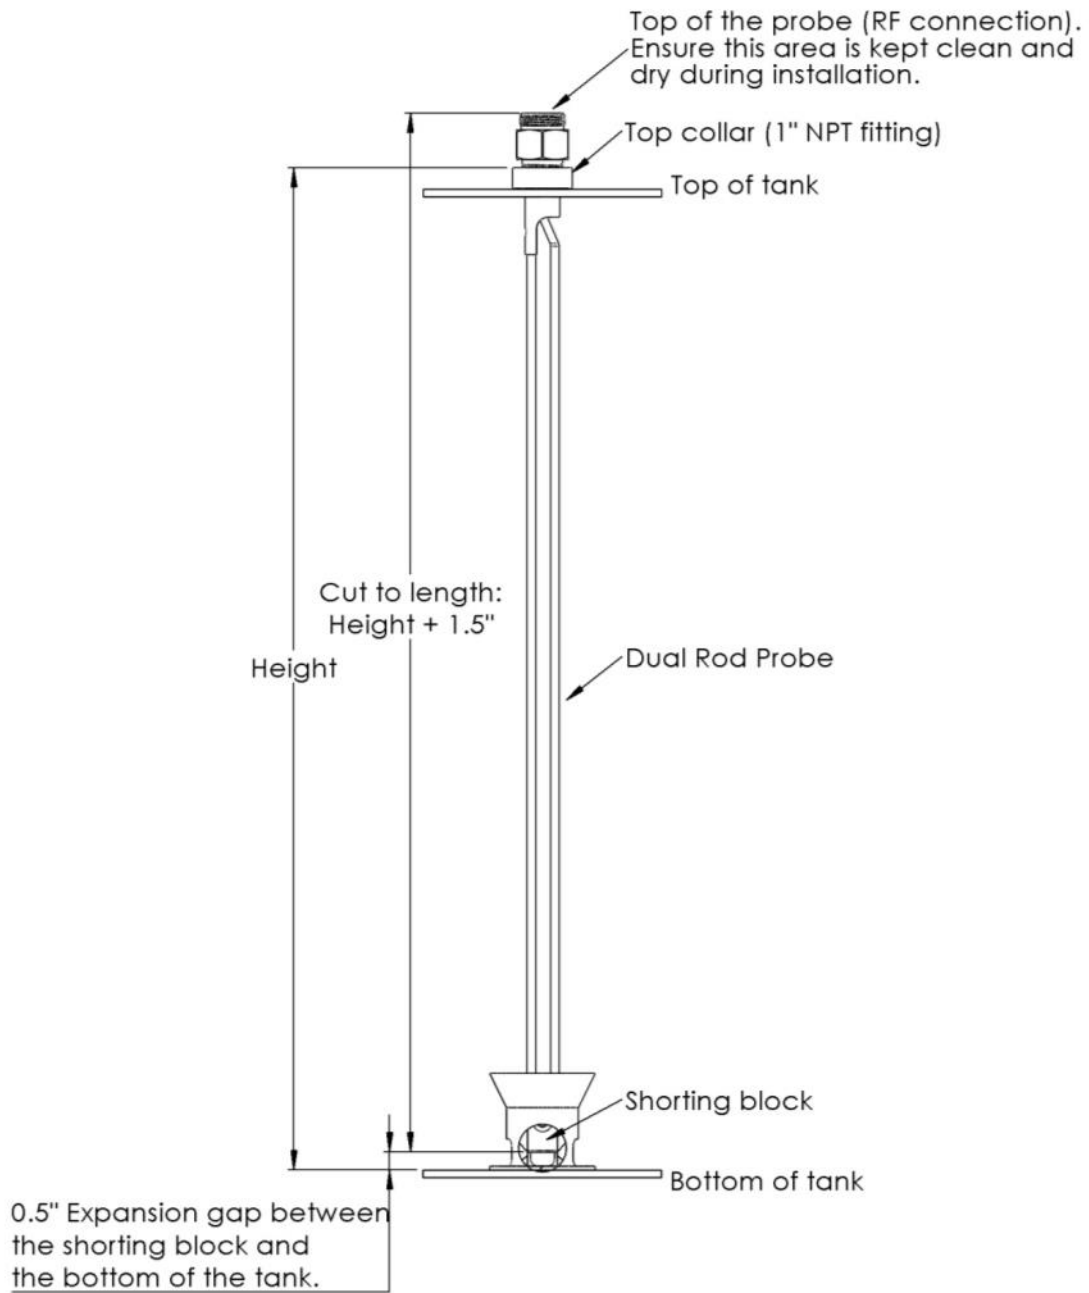
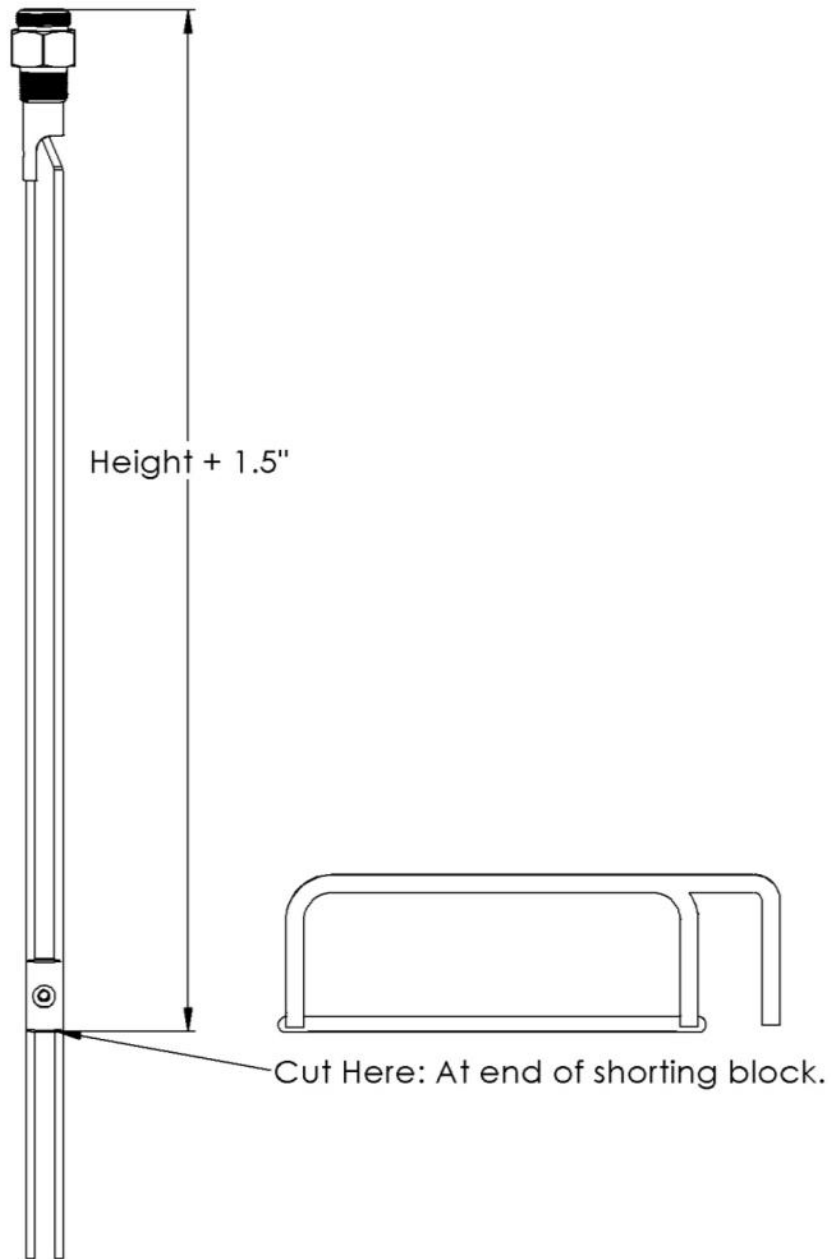

Figure 2-7: Dual Rod Probe Measurement
Figure 2-8: Cutting the Dual Rod Probe
1. Cut the Dual Rod Probe to Length, See Figure 2-7 & Figure 2-8